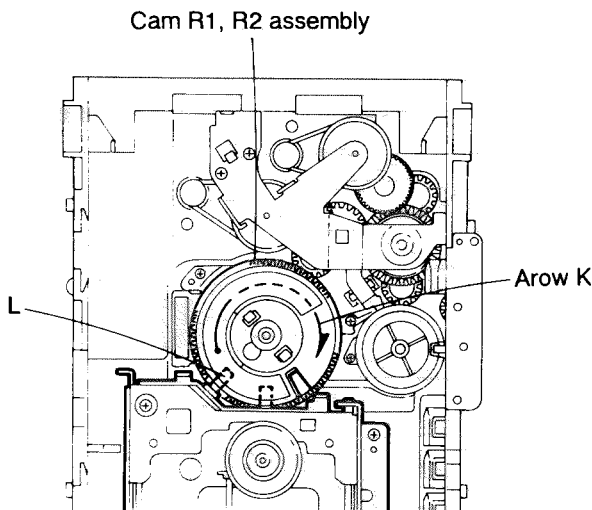

Fig. 2-20
**Removing the CD mechanism** (See Figs. 2-20 and 2-21)
1. For dismantling only the CD mechanism without removing the CD mechanism assembly, align the shaft (L) of the CD mechanism assembly to the position shown in Fig. 2-20 while turning the cam R1 and R2 assembly in the arrow direction (K).